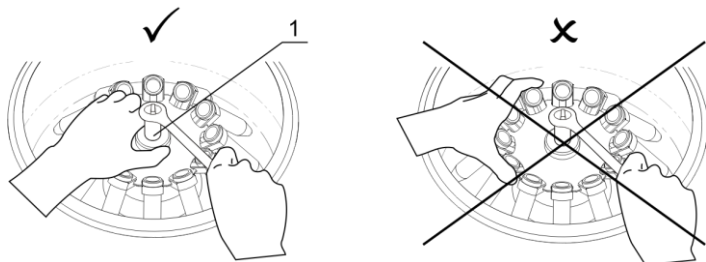

Figure 1. Rotor fixation
- Hold the rotor with one hand and, using the supplied wrench for rotor replacement (13 mm), turn the fixation nut (fig. 1/1) counter clockwise to release the rotor.
Caution! Do not hold the rotor by rings or adapters mounting when mounting and fixing it. Hold the rotor as shown on figure 1 (✓).
Caution! Check the rotor fixation every 10 days. Tighten the fixation nut if necessary, see figure 1.